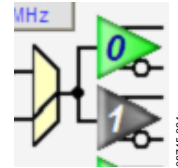
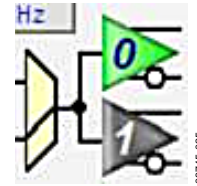
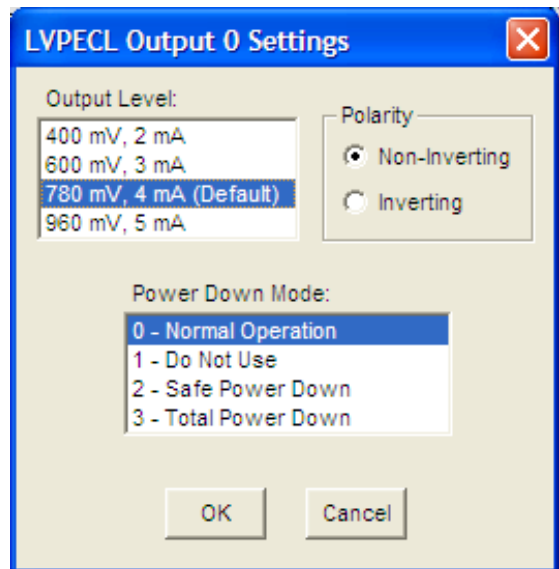

Figure 7. Driver Symbol
Figure 19. OUT0 Through OUT5 Output Driver Symbols
Figure 20. LVPECL Output 0 Driver Window
11. Power down unused drivers, click the numbered triangular symbol on the right side of the main window (see Figure 7), select **2 - Safe Power Down**, and click **OK** (see Figure 20).
The LVPECL Output 0 Settings window shown in Figure 20 is accessed by clicking the OUT0 through OUT5 output driver symbols on the right side of the main window (see Figure 19).